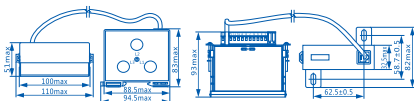

Figure 2 Outline and Installation Size of the Protector with Rated Current of 5A, 10A, 40A
3.1 Outline and installation size of the protector with rated current of 5A, 10A, 40A: see Figure 2, unit: mm.